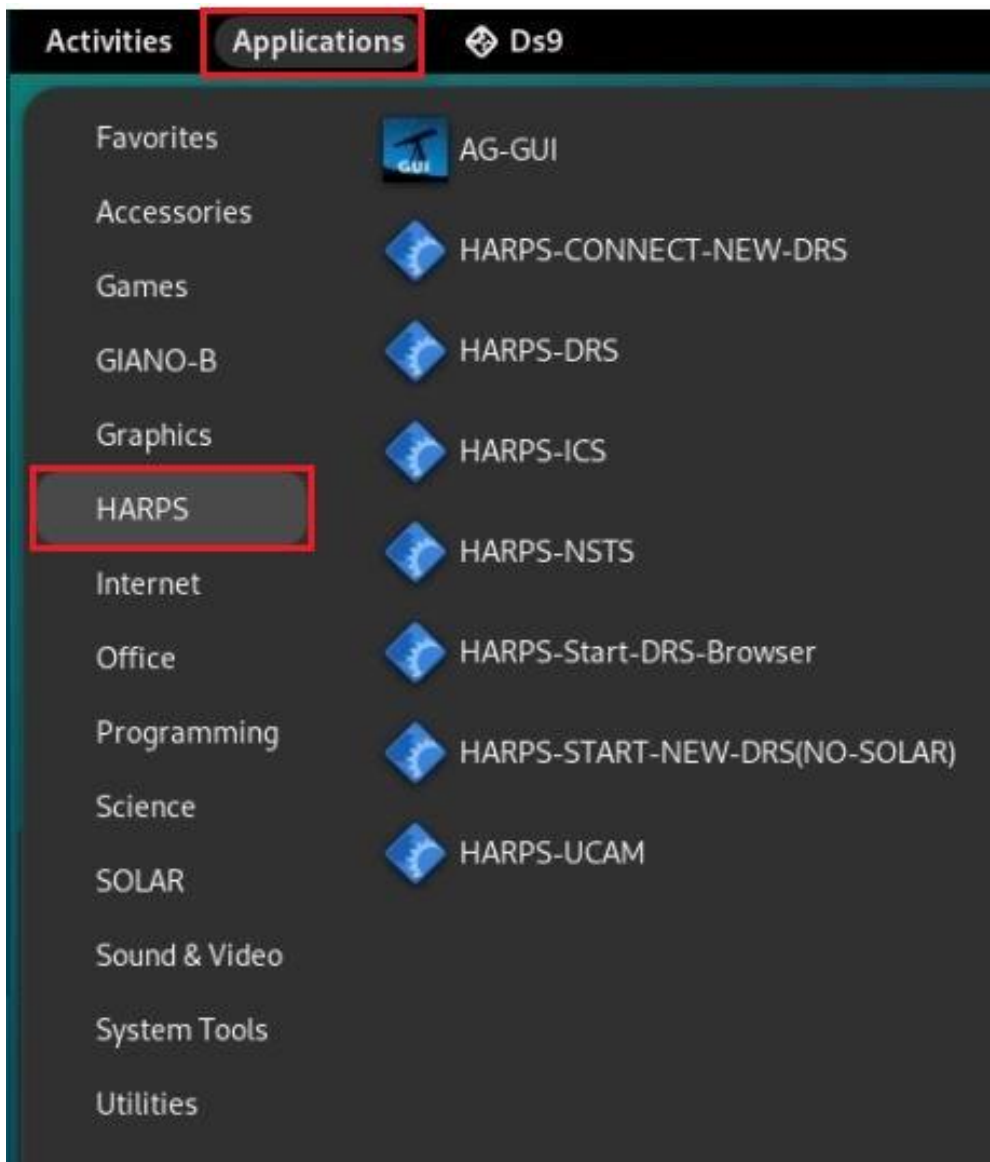
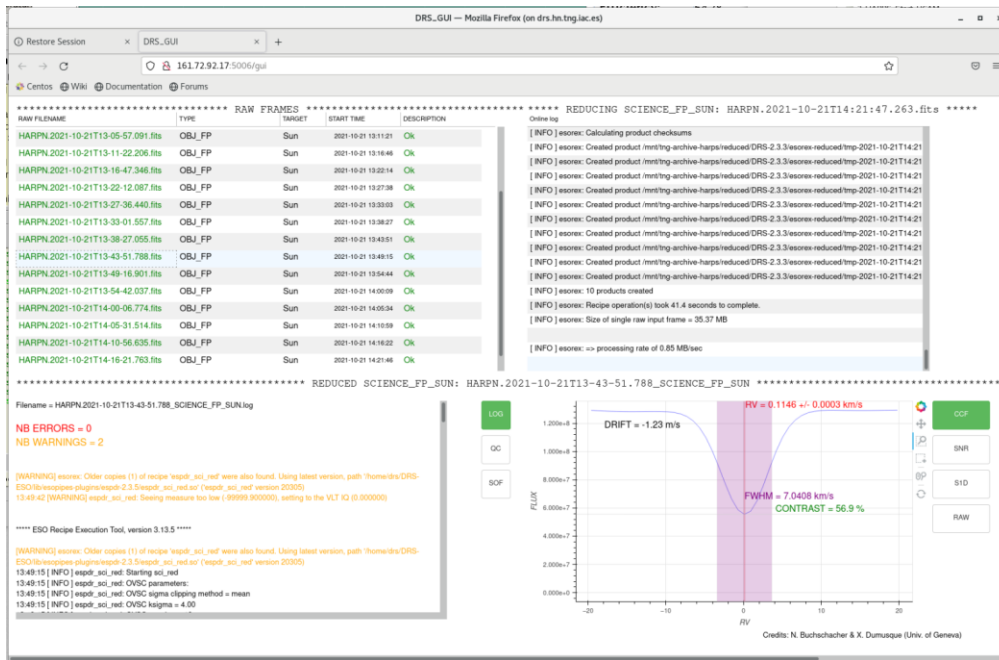

Figure 18 – brunello workstation desktop
Figure 24 - The WEB GUI
From the **brunello** workstation click on the **HARPS-NSTS** item (see Figure 18).
- 1) Open a HARPS-DRS terminals by clicking the **HARPS-DRS** item in the **brunello** workstation, Figure 18 (or execute: `ssh -Y harpn@drs32.hn` from a linux machine)
The fast method to start the ESPRESSO DRS is by click the **HARPS-START-NEW-DRS** item in the Brunello desktop (Figure 18). This shortcut starts the ESPRESSO DRS and the WebGUI (Figure 24).
- 1) Open a HARPS-DRS terminals by clicking the HARPS-CONNECT-NEW-DRS icon in the **brunello** workstation, Figure 18.
The WEB GUI will show any new raw frame arriving in the *current* night directory and the trigger automatically execute the corresponding recipe (Figure 24).